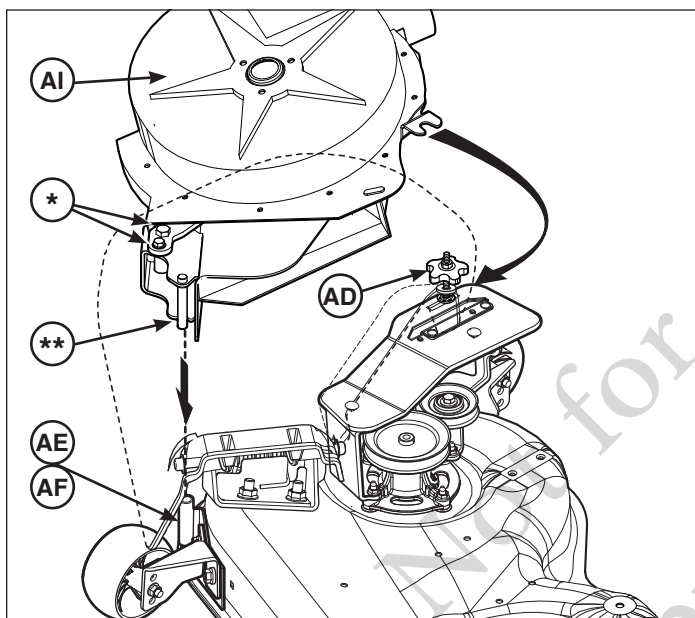

Figure 17
1. Loosen, *DO NOT* remove, the two nuts on the bolts (*, Figure 17) of turbo assembly (AI).
2. Loosen knob on turbo belt cover (AD).